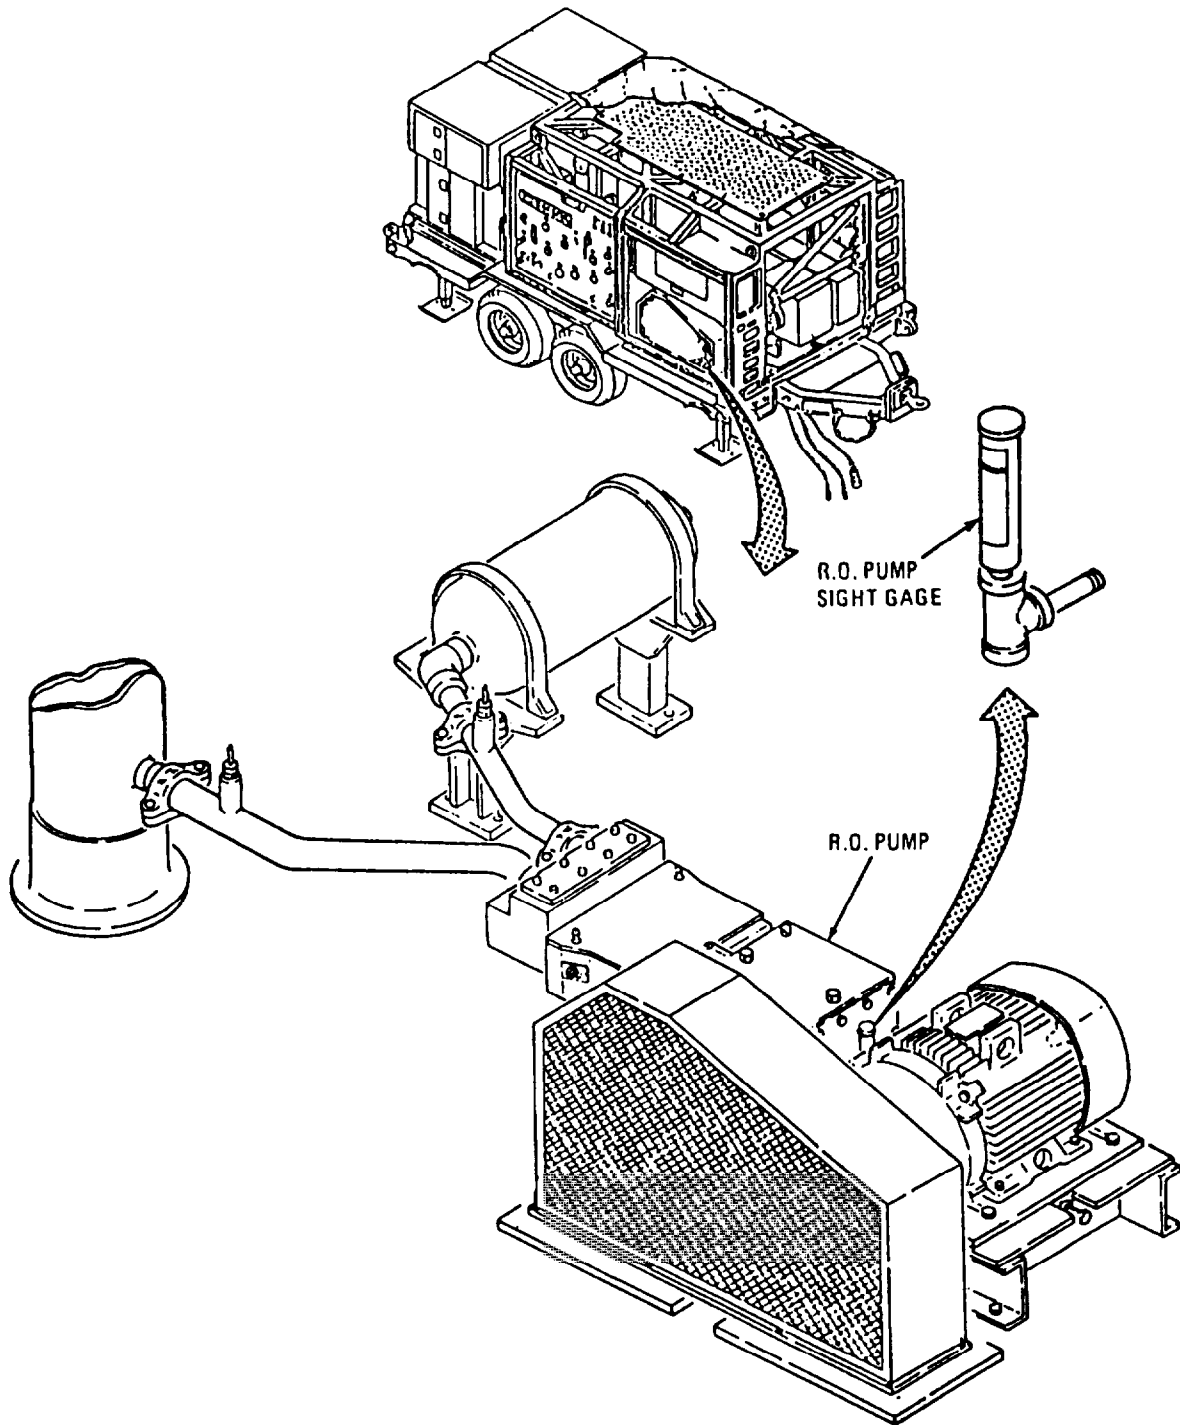

Figure 2-16. R.O. Pump Sight Gage
- o. R.O. Pump Sight Gage (Models WPES-10, WES-20, and WPES-30 only). Refer to figure 2-16. The R.O. pump sight gage provides a visual indication of the oil level in the pump. The pump is properly serviced when oil can be seen at least half way up the sight glass.